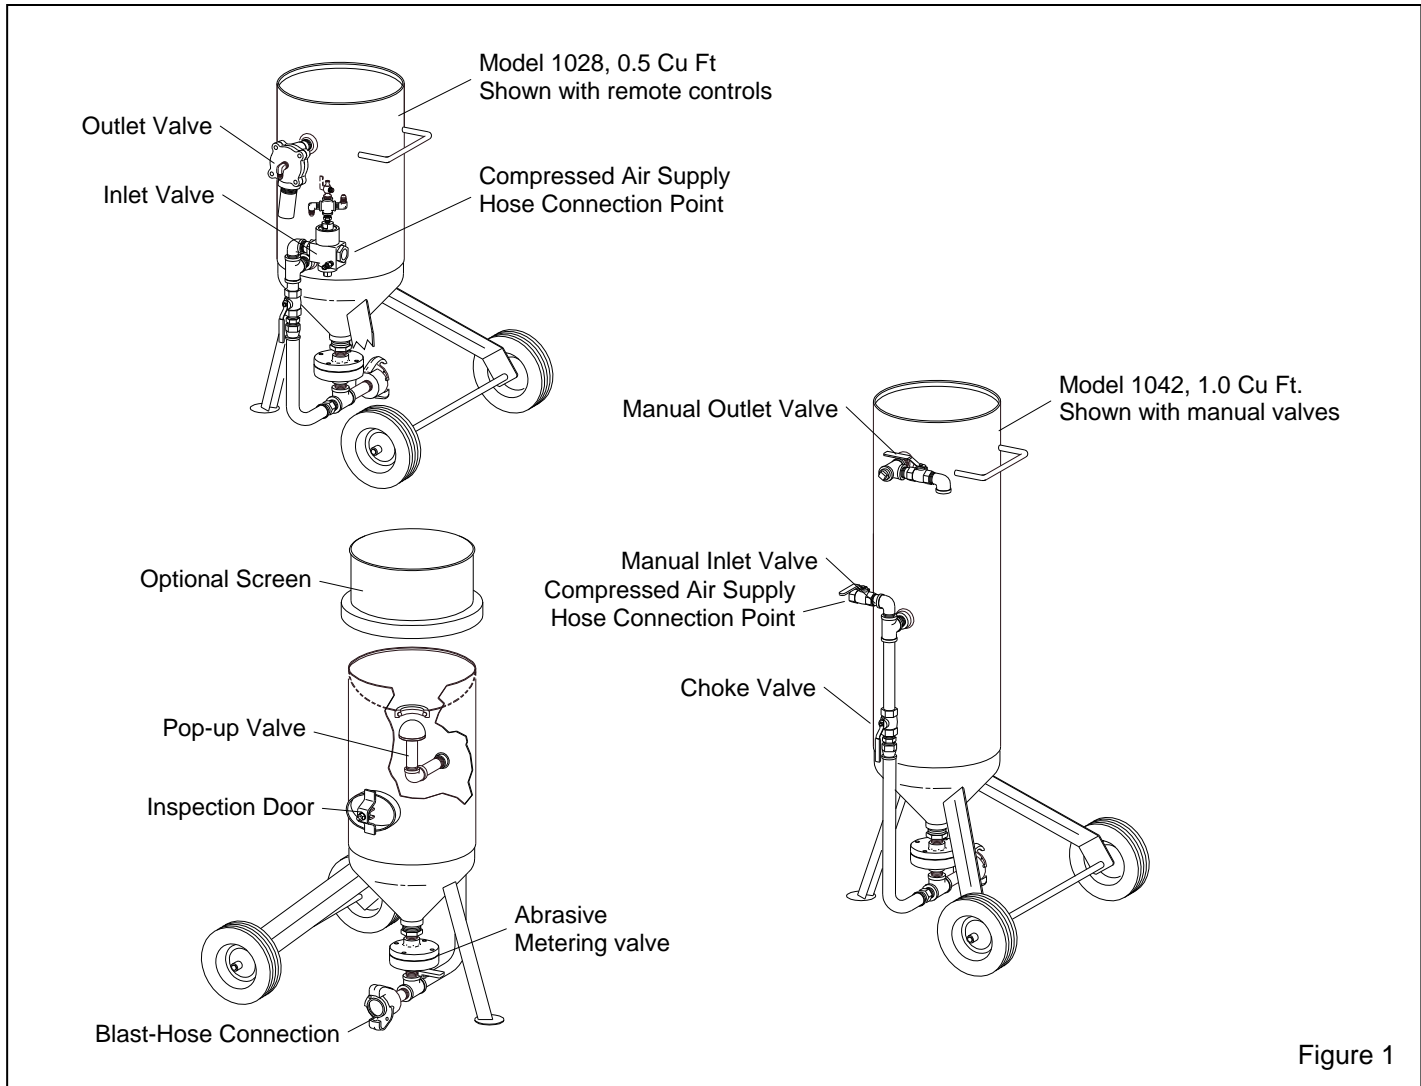

Figure 1
**1.3.1** The primary components of the blast machine are shown in Figure 1.